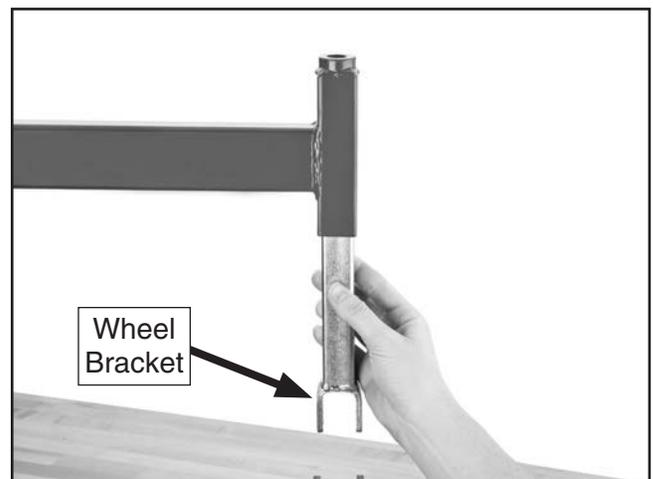

Figure 5. Inserting wheel bracket into frame.
2. Turn frame upside down and insert lower wheel bracket into frame, as shown in **Figure 5**.